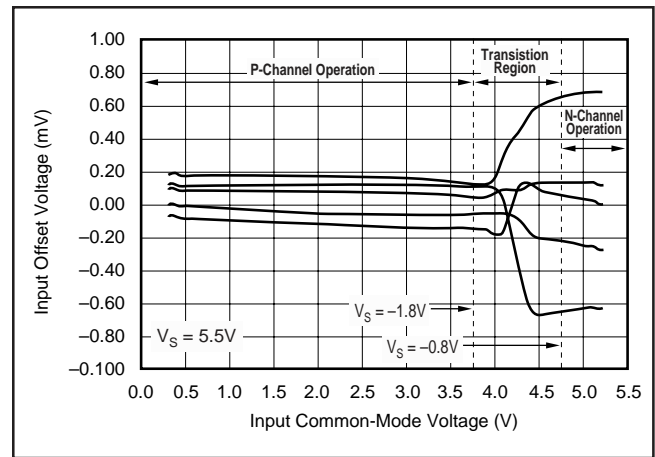
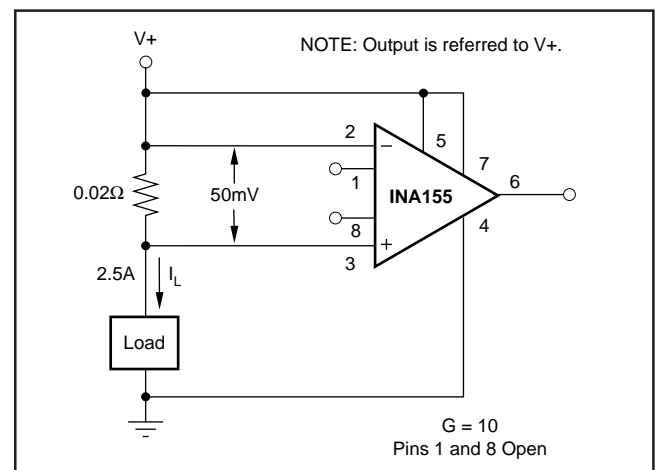

FIGURE 6. Input Offset Voltage Changes with Common-Mode Voltage.
FIGURE 7. Single-Supply, High-Side Current Monitor.
NOTES: (1) For further information, refer to typical performance curves on common-mode input range. (2) Operation above (V+) - 1.8V (max) results in reduced common-mode rejection. See discussion and Figure 6 in the text of this data sheet. (3) Does not include error and TCR of additional optional gain-setting resistor in series with R_G , if used.
The internal amplifiers have rail-to-rail input stages, achieved by using complementary n- and p-channel input pairs. The common-mode input voltage determines whether the p-channel or the n-channel input stage is operating. The transition between the input stages is gradual and occurs between $(V+) - 1.8V$ to $(V+) - 0.8V$. Due to these characteristics operating the INA155 with input voltages within the transition region of $(V+) - 1.8V$ to $(V+) - 0.8V$ results in a shift in input offset voltage and reduced common-mode and power supply rejection performance. Typical patterns of the offset voltage change throughout the input common-mode range are illustrated in Figure 6. The INA155 can be operated below or above the transition region with excellent results. Figure 7 demonstrates the use of the INA155 in a single-supply, high-side current monitor. In this application, the INA155 is operated above the transition region.